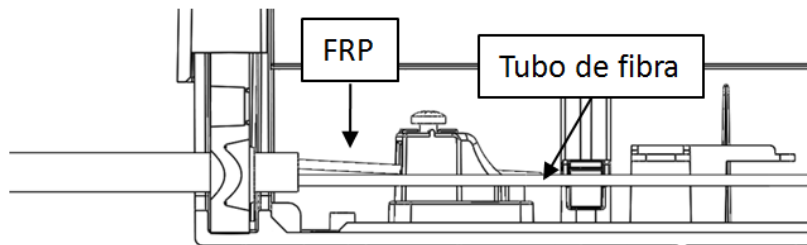

Figure 14 - FRP support for anchoring
- 1.4.4 Insert the aramid in the position and tighten the bracket screw to secure the attachment of the cable (Fig. 14);